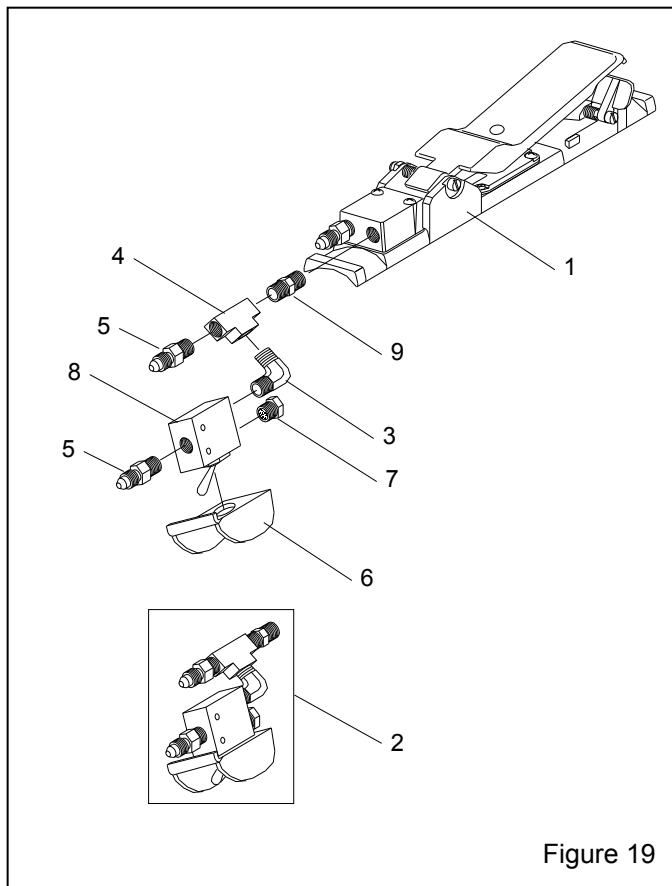

Figure 19
**6.2 Pneumatic RLX with ACS –Figure 19**